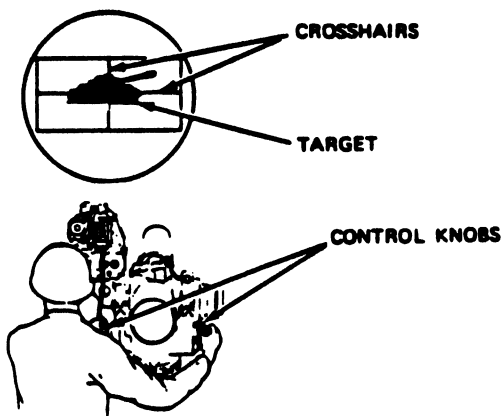

Fig 4-32. Centering crosshairs on target.
Step 8. Select the day sight tracker or night sight (whichever gives you the better target image, depending upon battlefield visibility) and turn the control knobs to keep the crosshairs on the center of the target (fig 4-32).